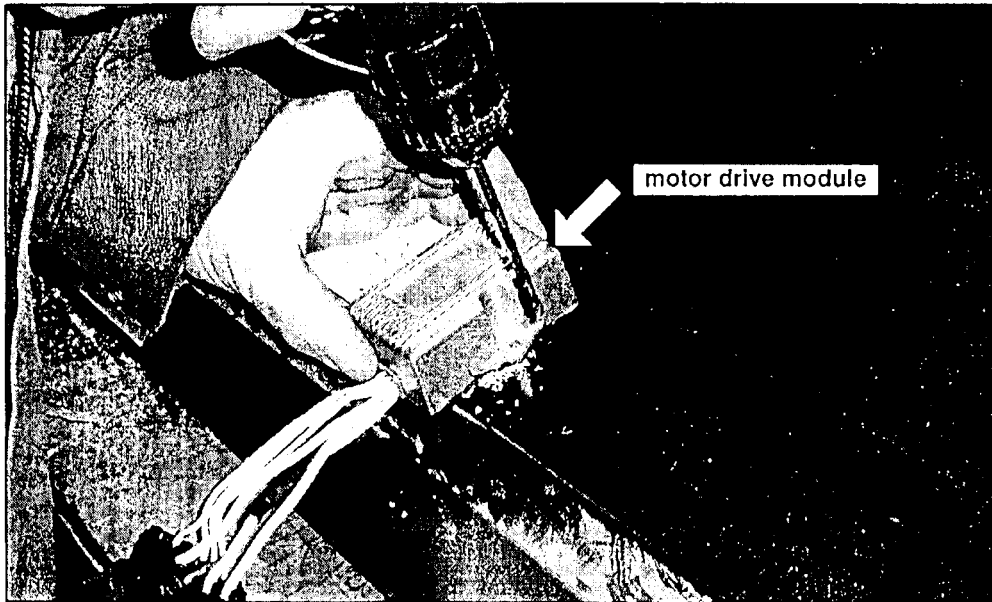

Figure 2.
4. Remove the access panel and place on a workbench. Align the motor drive module with the outline mark made in Step 3. Using a 11/64 inch drill bit, drill pilot holes in the access panel using the motor drive module holes as a template (Figure 2). Using a 13/64 inch drill bit, re-drill the holes.